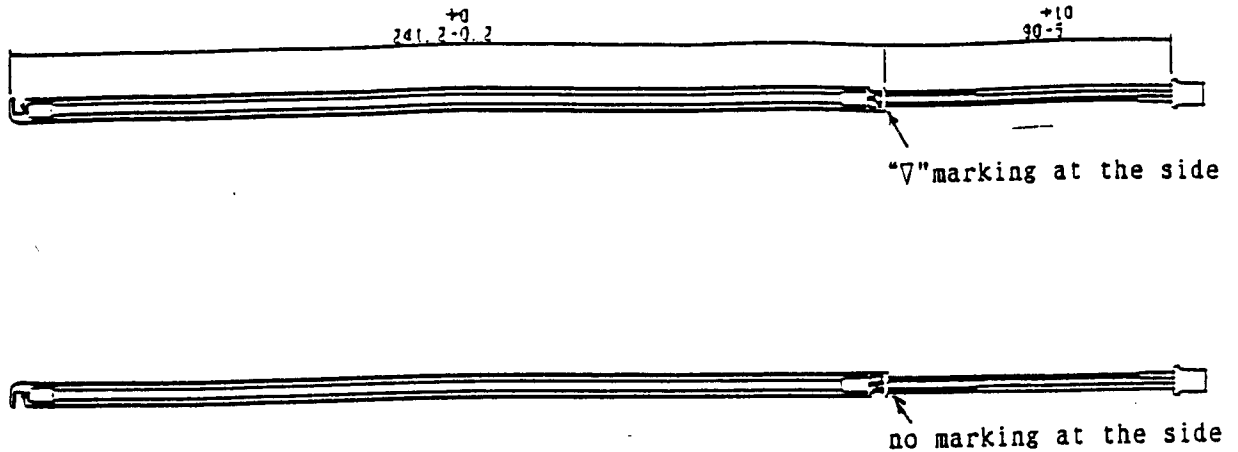

Fig. 1. Outline drawing of lamp unit
* Outline drawing of lamp unit : See Fig. 1.
(4) Input / Output terminals